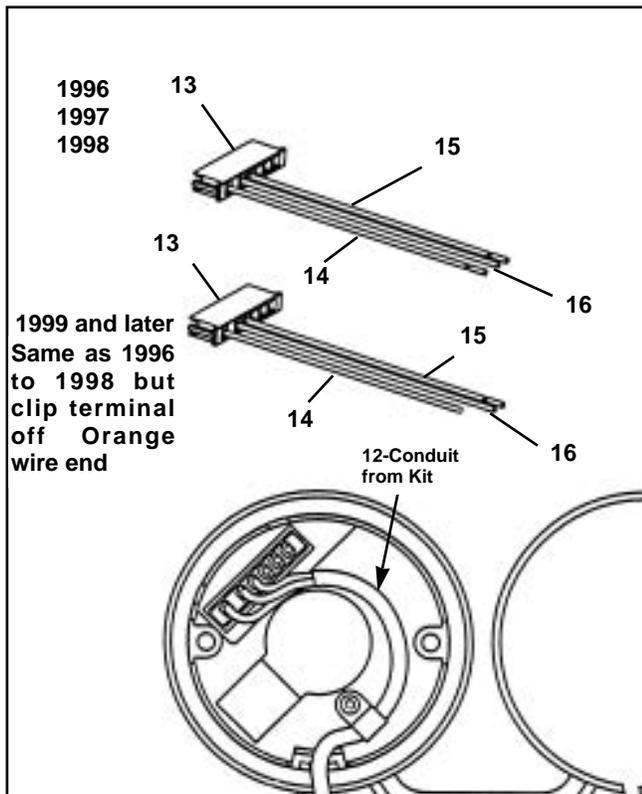

Figure 10. Connecting Harness to Tachometer (Callouts correspond to wires listed in Service Parts)
1. See Figure 10. It is necessary to assemble a harness from wires, conduit, and connector provided in kit. This harness will plug directly into the back of the tachometer (more here on how to insert terminals into Amp connector). Depending on the model year, different wires are used to make up this harness. After plugging wire ends into connector as shown, cover wires with conduit from kit.
*not shown. See Figure 10 for instructions on assembling connector, wires and conduit into a harness